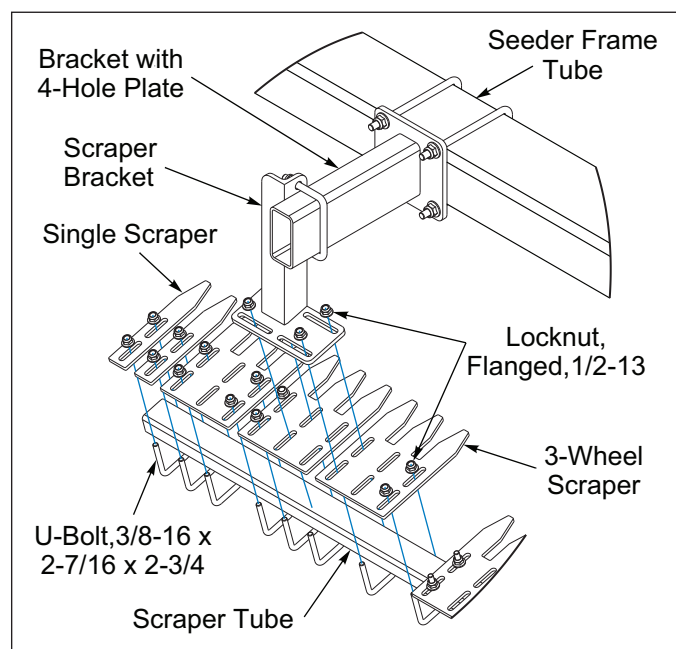
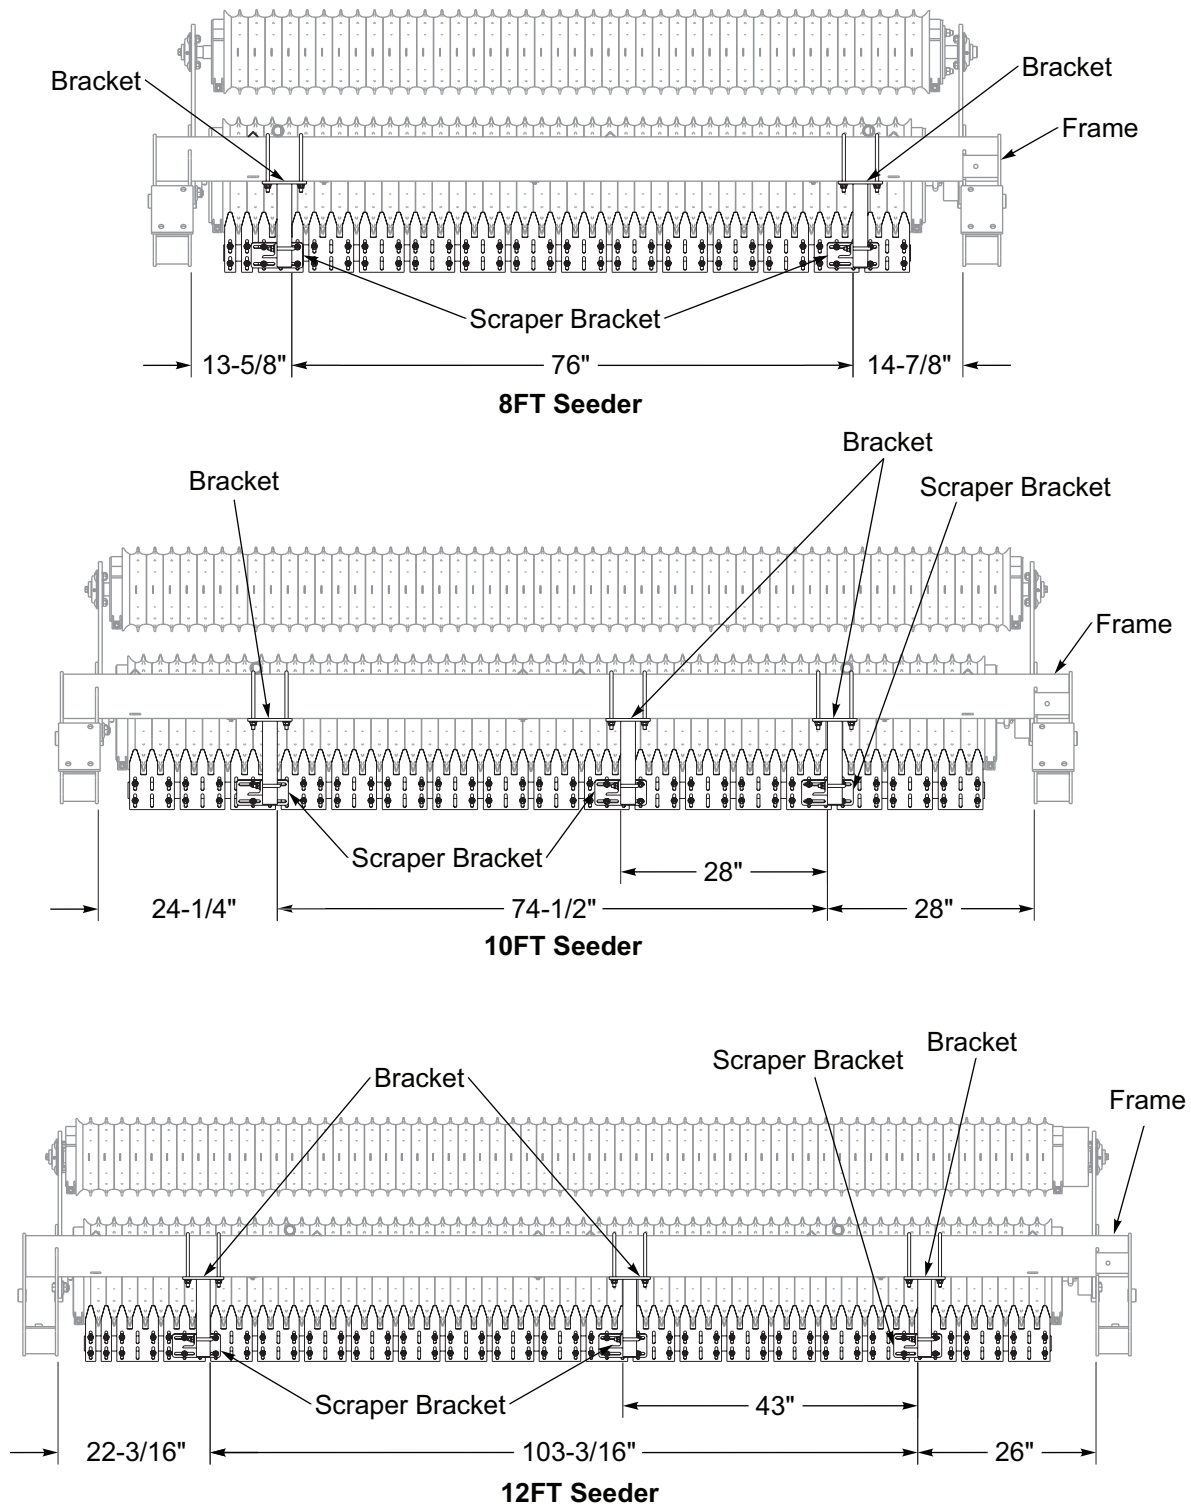

Figure 2-53: Scraper Assembly
Figure 2-54: Scraper Mounting Dimensions - Pull-Type
2. Position and assemble the Brackets with the 4-Hole Plate approximately as dimensioned on the front of the Seeder Frame Tube. **See Figures 2-54 and 2-55.** Secure with 1/2-13 x 4-1/2 x 7-1/2 U-Bolts and Flanged Locknuts.
Scraper Brackets should be positioned per application. Use **Figures 2-54 and 2-55** only as a reference.
6. Align the Scraper Brackets Slotted Plate to the appropriate Scrapers and attach with the Scraper 3/8-16 Hardware. **See Figure 2-53.** It may be necessary to use the center pair and an outer pair of slots in the Scraper to attach the Scraper Bracket to the Scraper and Tube Assembly. **See Figures 2-54 and 2-55.**